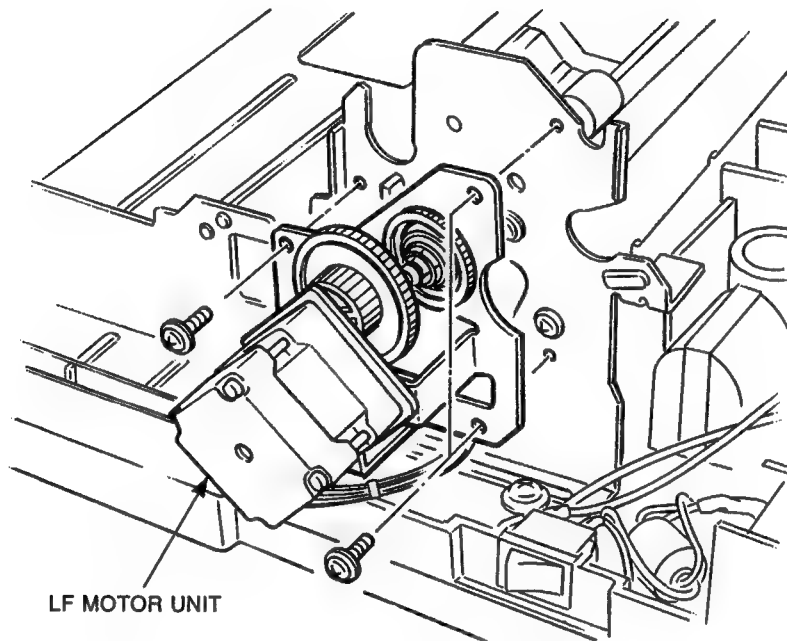

Figure 3-55 LF Motor Unit
1. Remove the LF motor unit by removing the three screws securing it to the right side frame (see Figure 3-55).